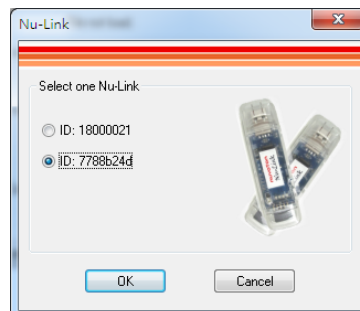

Figure 4-6 Select One Nu-Link Adapter
- Step 5: If two Nu-Link Adapters have been connected with the computer, a message appears and asks to select one from the two adapters. Clicking **OK** will connect the selected adapter with the host, as shown in Figure 4-6. When a Nu-Link Adapter is selected for connection, the Status LED starts blinking. For the blinking details, refer to the Status LED description of the “Select a Nu-Link Adapter to connect with the host” in Table 2-4.